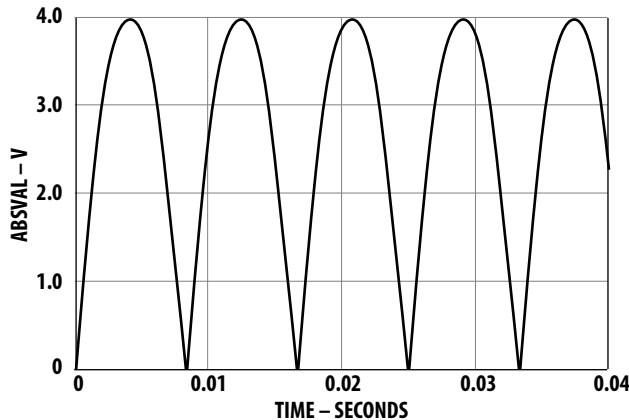

Figure 24. ABSVAL with 1 phase
4.6: Why is gain defined as <math>V_{REF}/504</math> mV, not <math>V_{REF}/512</math> mV as expected, based on Figure 24?	Ideally gain would be $V_{REF}/512$ mV, however, due to internal settling characteristics, the average effective value of the internal 256 mV reference is 252 mV.